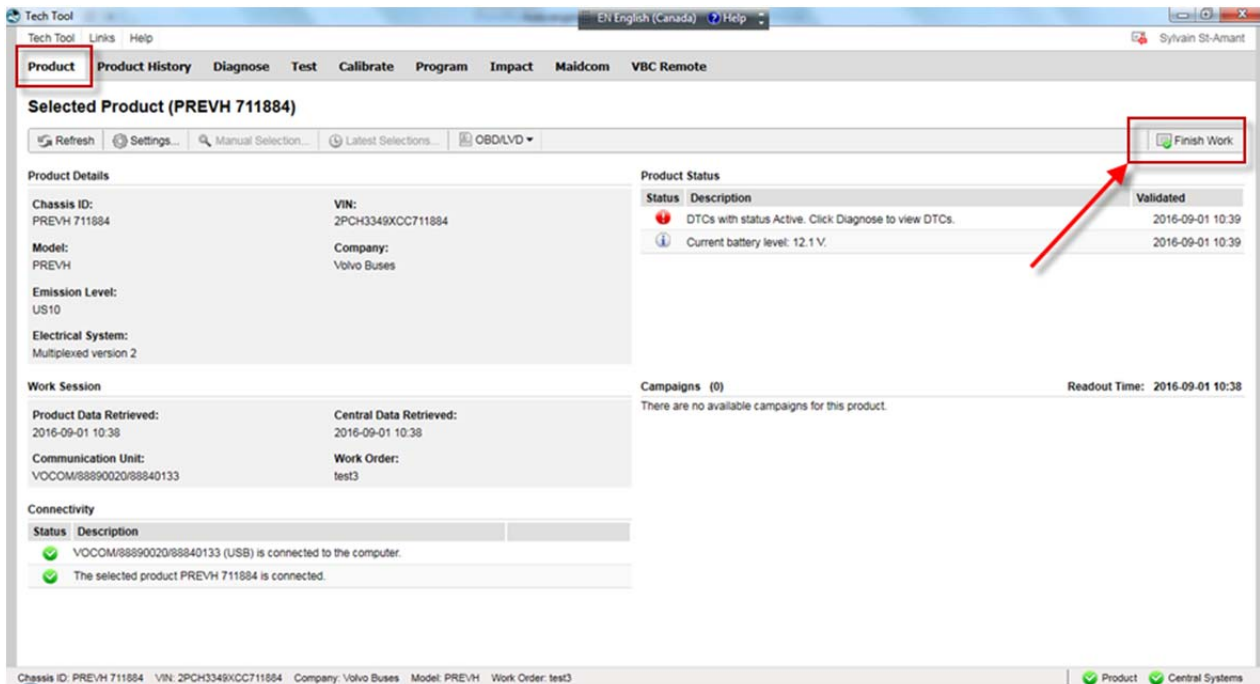

FIGURE 38
10. On the PRODUCT tab, click FINISH WORK button (FIGURE 38).